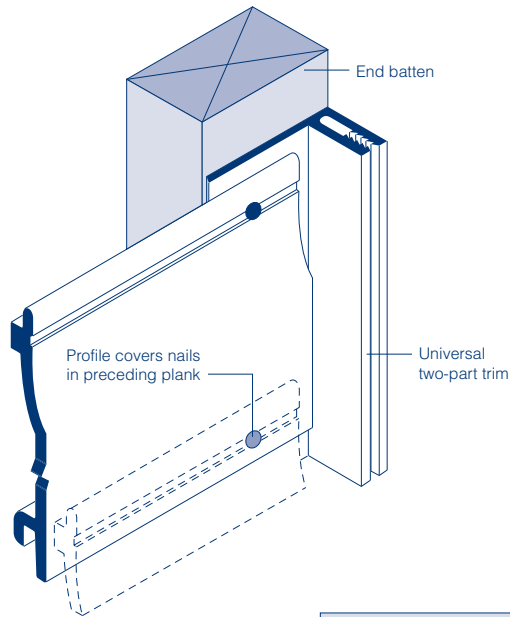

Fig. 18
- All plank ends must be secret nailed (at their top edge) into the vertical trims. See figure 18.